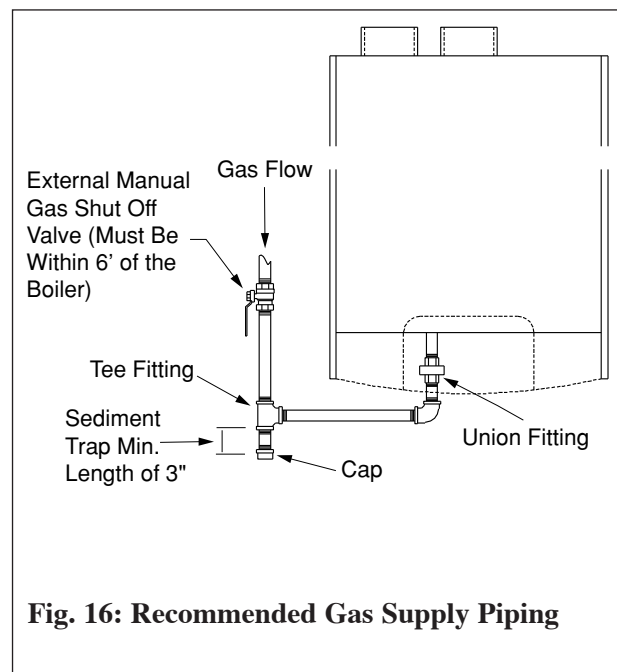

Fig. 16: Recommended Gas Supply Piping
2. Install a manual shutoff valve in the gas supply piping as shown in Fig. 16. For installations in Canada the installer must tag and identify the main shutoff valve.
3. Install a sediment trap (drip leg) on the gas supply line prior to connecting to the PRESTIGE Solo gas train as shown in Fig. 16.